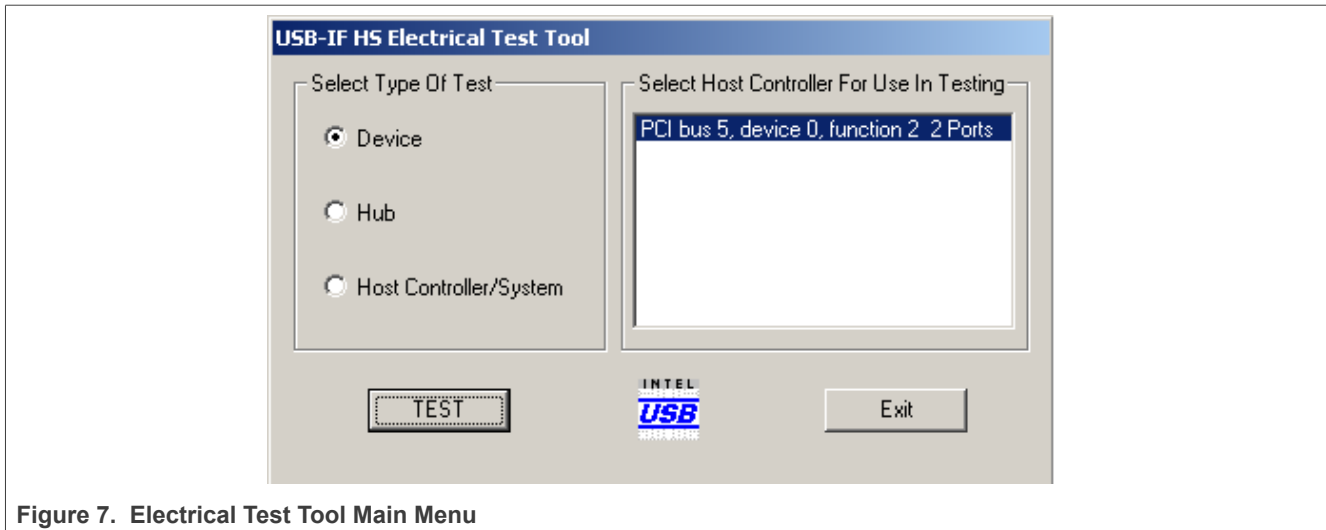

Figure 7. Electrical Test Tool Main Menu
2. Invoke the HS Electrical Test Tool software on the Computer, select **Device**, and click the **TEST** button to enter the Device Test menu, see Figure 7.